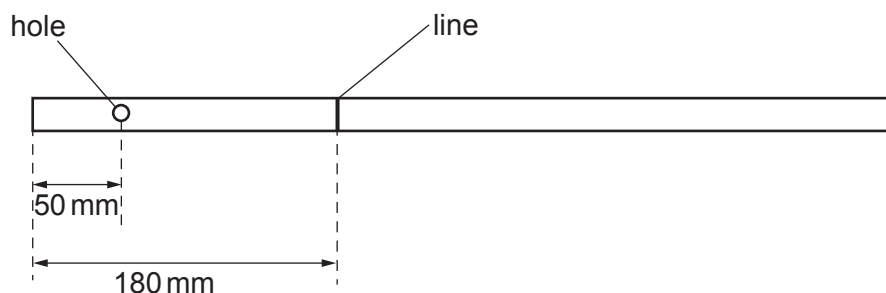

Fig. 2.2
- 2 A hole of approximate diameter 3.0 mm should be drilled through the rod and a line should be drawn all the way around the rod, each at the position shown in Fig. 2.2.